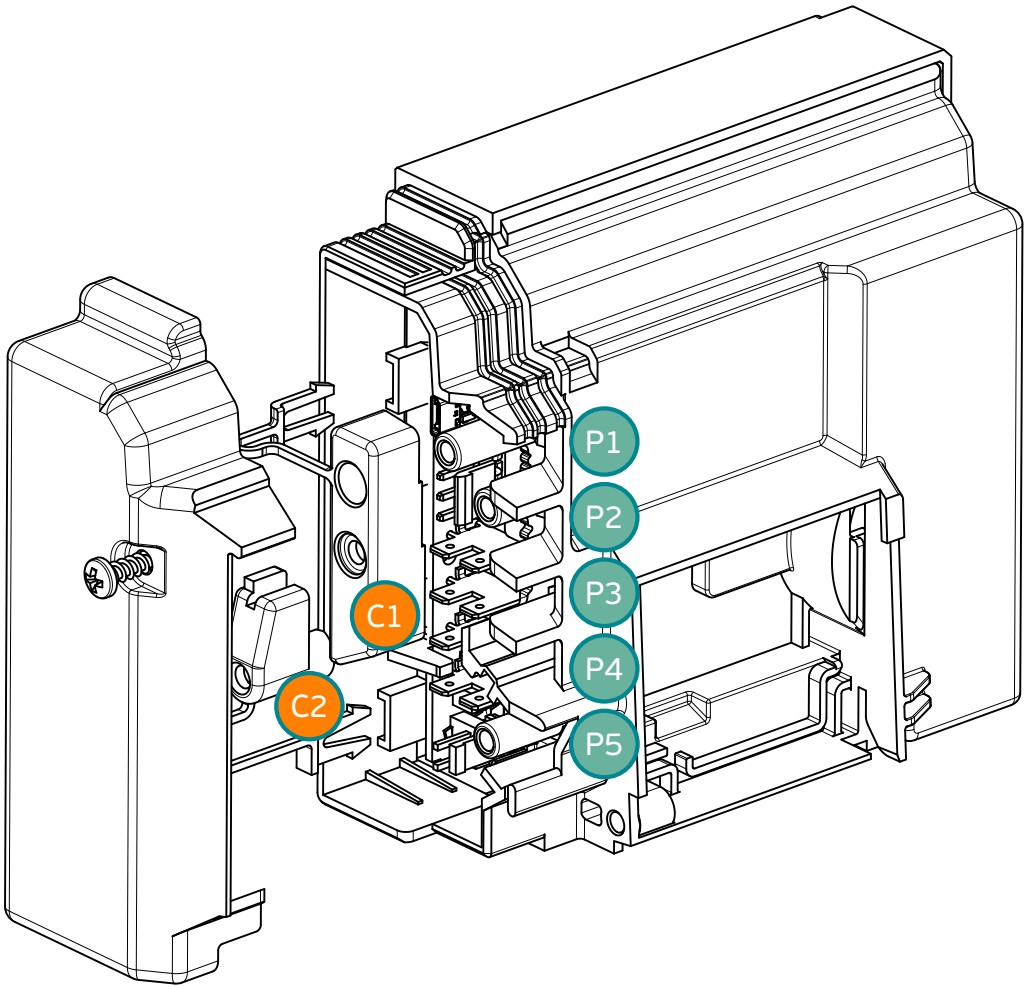

Figure 3.1: Cable paths and cord reliefs - Attached version
The CF03B inverter is supplied only with compressor motor cable, which has your own cord relief. The compressor motor cable is already assembled in the inverter. The input power cord, grounding and communication cables are not provided by Embraco. As shown in Figure 3.1, the CF03B - version Attached has 5 cable paths and 2 cord anchorages dedicated to retain the system cables. Inverter cables must be arranged according to the following instructions.
2. Make the electrical connections and route the cables through the cable path (see Figure 3.1).
3. Route all the cables through the output (see Figure 3.1).
- The screws shown in Figure 3.1 must be fixed with torque of 1.0 Nm (± 0.2).